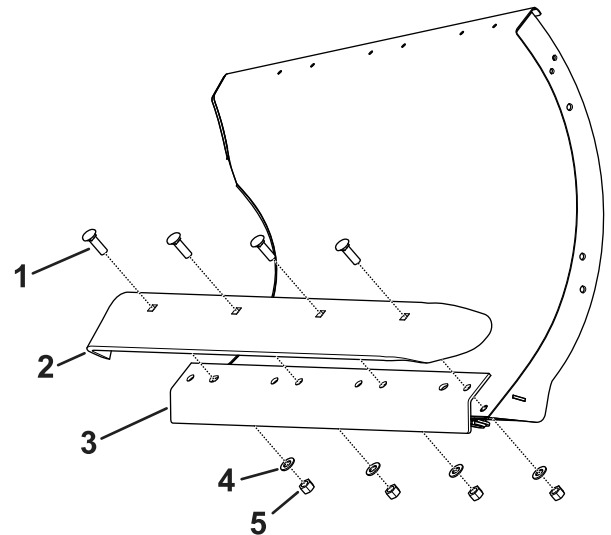

Figure 2
4. Install the back drag edge and previously removed cutting edge to the plow using new bolts, washers, and nuts (Figure 2).